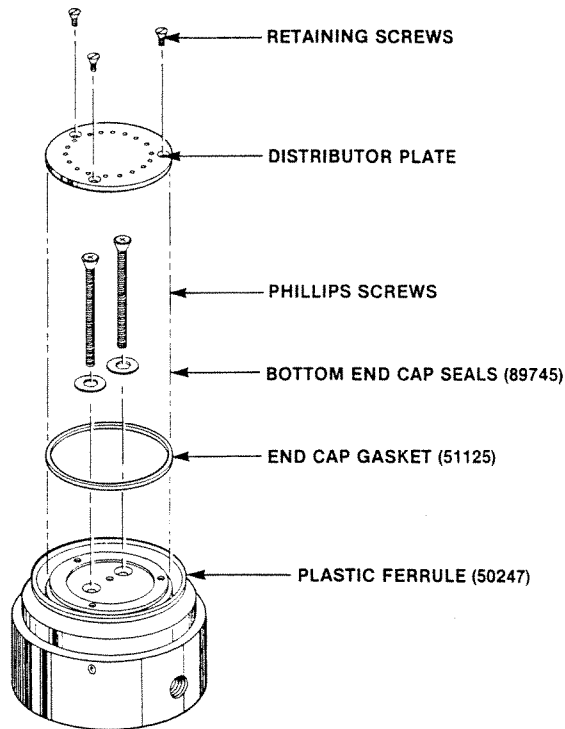

FIGURE 4-3 BOTTOM END CAP ASSEMBLY
2. Remove the distributor plate (Figure 4-3) from the bottom end cap by removing the three retaining screws.
The end cap gaskets are beneath the distributor plate on each end cap (see Figure 4-3).